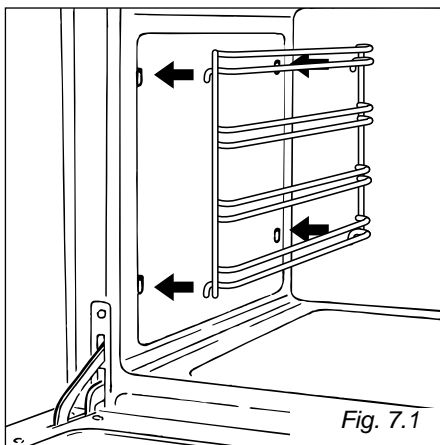

Fig. 7.1
- Fit the side runner frames into the holes on the side walls inside the oven (Fig. 7.1).